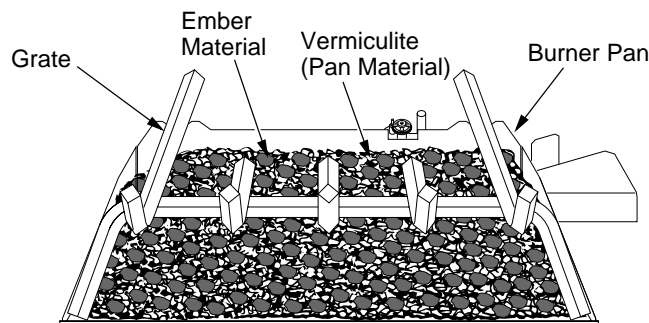

Figure 22 - Ember Material on Surface of Pan Material (Vermiculite) (P325/VP325 Models Shown)
3. Remove the ember material from the bag and flatten small amounts into quarter size pieces and lay on top of the surface of the pan material (see Figure 22).